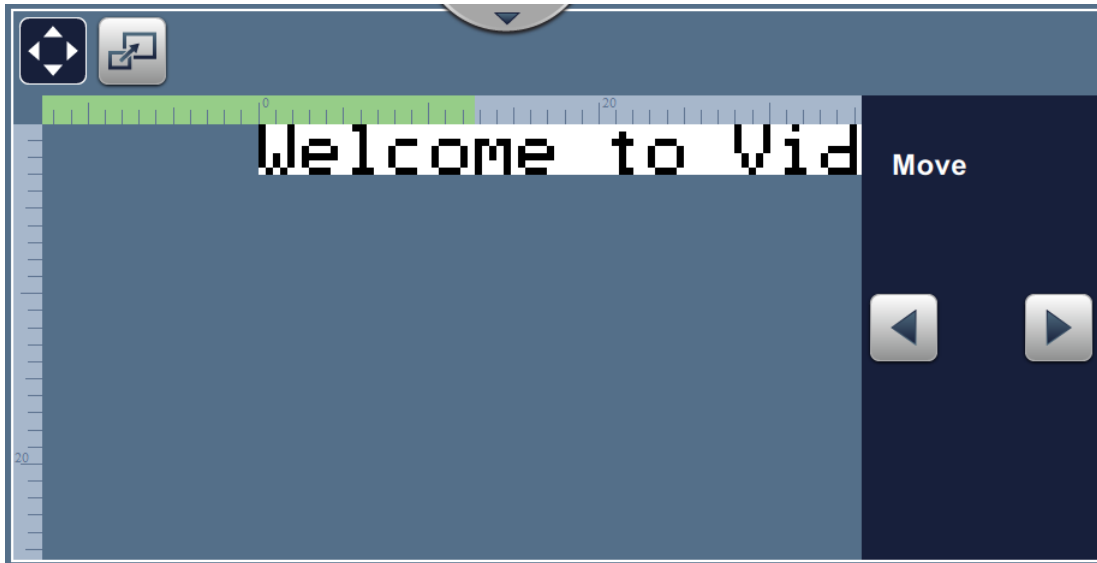

Figure 4-9: Adjust_Move
1. Touch the  button and the current position divider appears as shown in Figure 4-9.